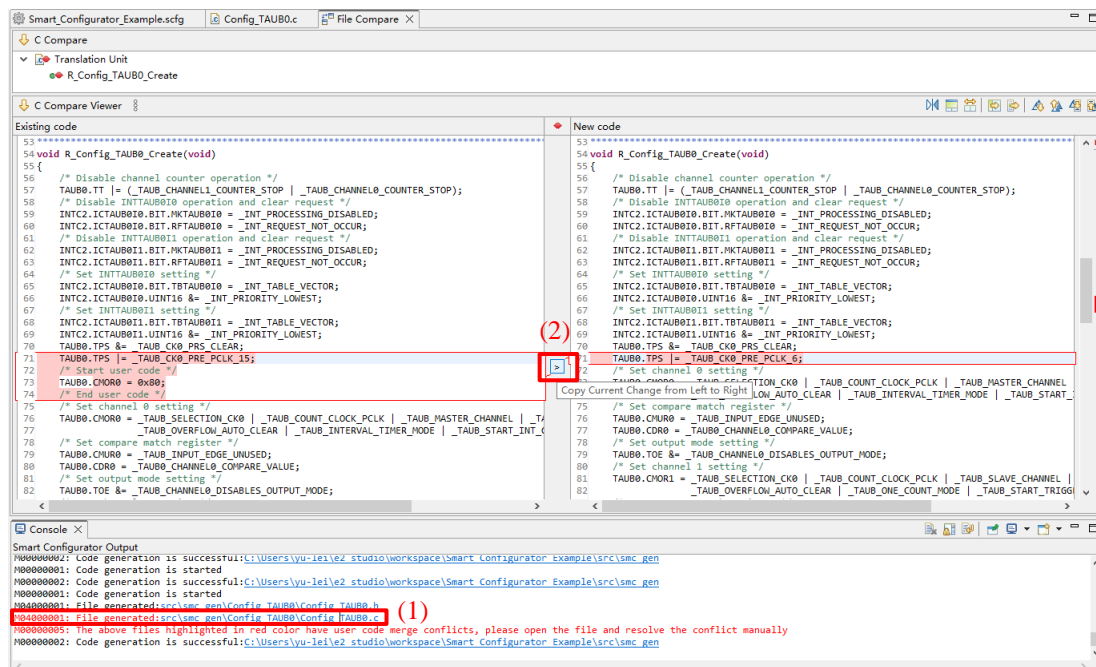

Figure 10-4 Code before Resolving Conflict
- (1) Click on the conflicting file in the console to open the “File Compare” view (Figure 10-4 Code before Resolving Conflict).
- (2) Click on “Copy Current Change from Left to Right” (Figure 10-4).